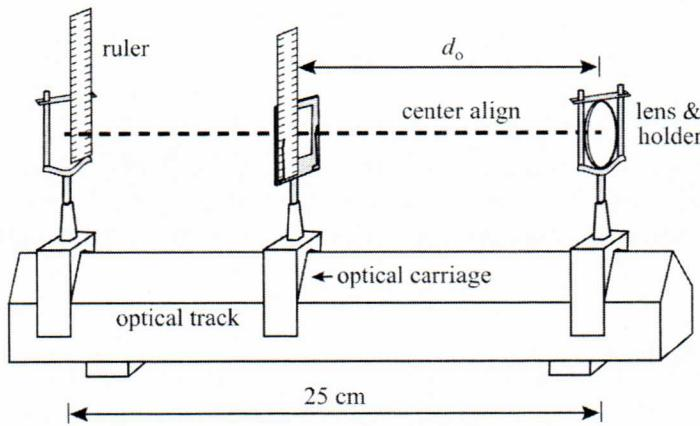

Figure 10.2 The Simple Magnifier set up
1. Use either of the two lenses with larger focal lengths as your magnifier. See figure 10.2. Place the lens in the holder and then into the optical carriage. Use equation 10.2 to determine where the object – in our case, a vertical ruler should be placed with respect to the lens. The ruler will be placed on and lightly taped to the screen holder in the optical carriage. The image should then be 25.0 cm from the lens. To measure the height of the object at the image location another ruler will be placed on, and lightly taped to another lens holder in an optical carriage, 25.0 cm from the lens.